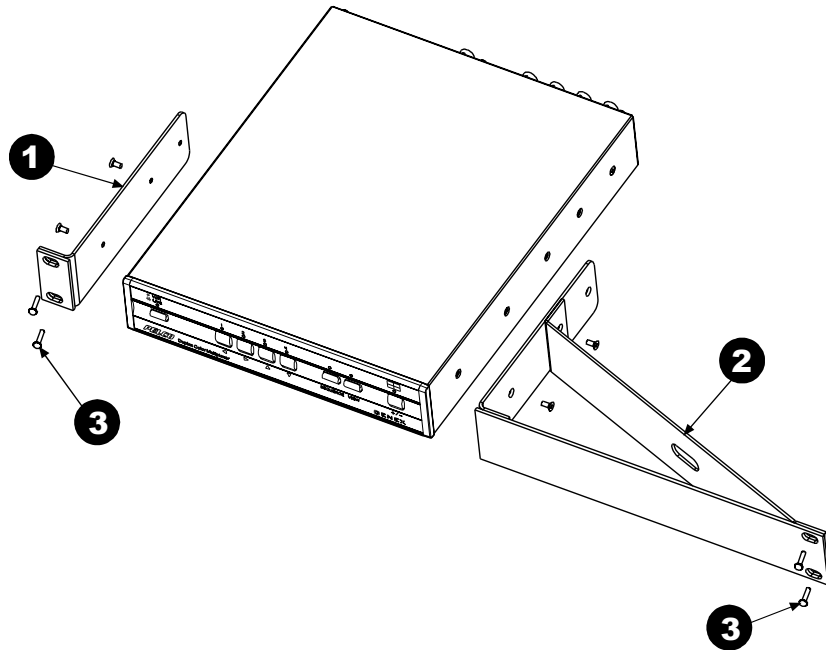
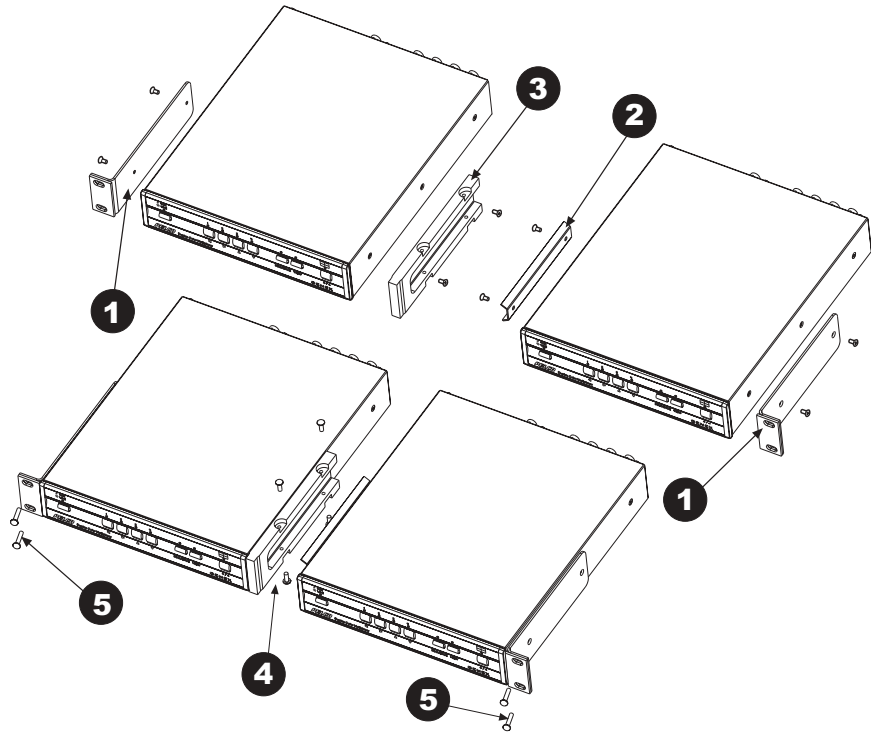

Figure 5. Rack Installation – One Multiplexer
Figure 6. Rack Installation – Two Multiplexers
Place the multiplexer on a flat surface or install it in a 19-inch (48.26 cm) equipment rack. To install in an equipment rack, you will need the optional RK100 rack mount kit that must be ordered. Remove the four feet beneath the unit and refer to either Figure 5 or Figure 6. Use the brackets and hardware supplied with the kit.
1. Refer to Figure 5. Remove the front two screws from both sides of the multiplexer. Use two of the screws to attach the short rack ear to either the left or right side of the unit (Figure 5 shows left-side installation).
1. Refer to Figure 6. Remove the front two screws from both sides of the multiplexer. Use four of the screws to attach the short rack ears to the outer sides of each unit.